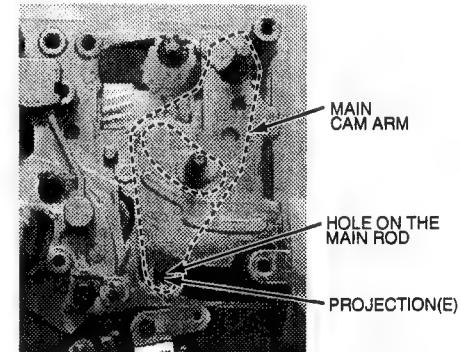

Fig. M-8
- Fig. M-8 Install the Main Cam Arm so that the projection (E) on the Main Cam Arm meets the hole on the Main Rod.